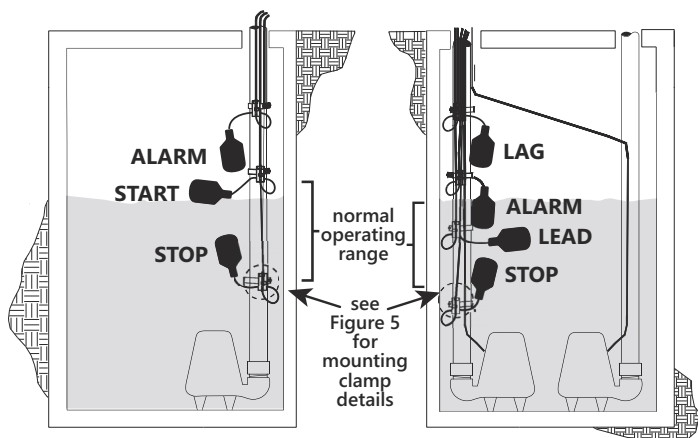

Figure 1. Simplex 3-float and Duplex 4-float (pumpdown installation)
2. Determine your normal operating range, as illustrated in Figure 1.
3. Mount float switches at appropriate levels as illustrated in Figure 1. Be sure that floats have free range of motion without touching each other, or other equipment in the basin.